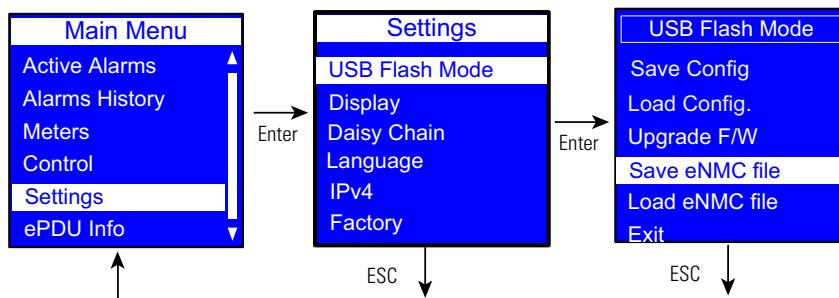
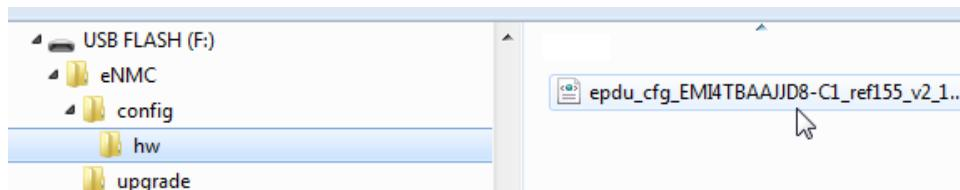

Figure 68. Example Save eNMC File Display
Figure 69. Verify HW File at USB Root
- Select Save eNMC file to save the ePDU hardware configuration file to the USB drive (see Figure 68). The file will save to the eNMC/config/hw path at the USB drive root directory (see Figure 69.).